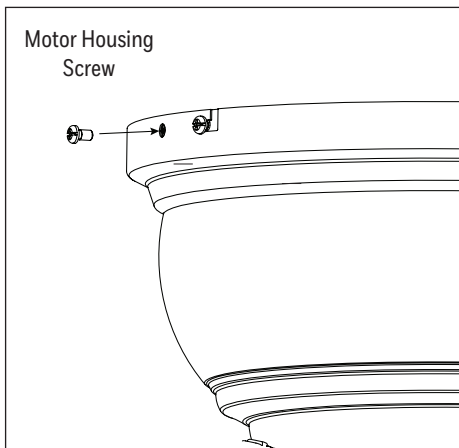

Figure 2.7
7. Slide the motor housing up over the motor, aligning the slotted holes in the motor housing with the two loosened motor housing mounting screws in the upper mounting bracket. Twist the motor housing clockwise to lock. Then, reinstall the two previously-removed motor housing screws and securely tighten all four screws (Figure 2.7).